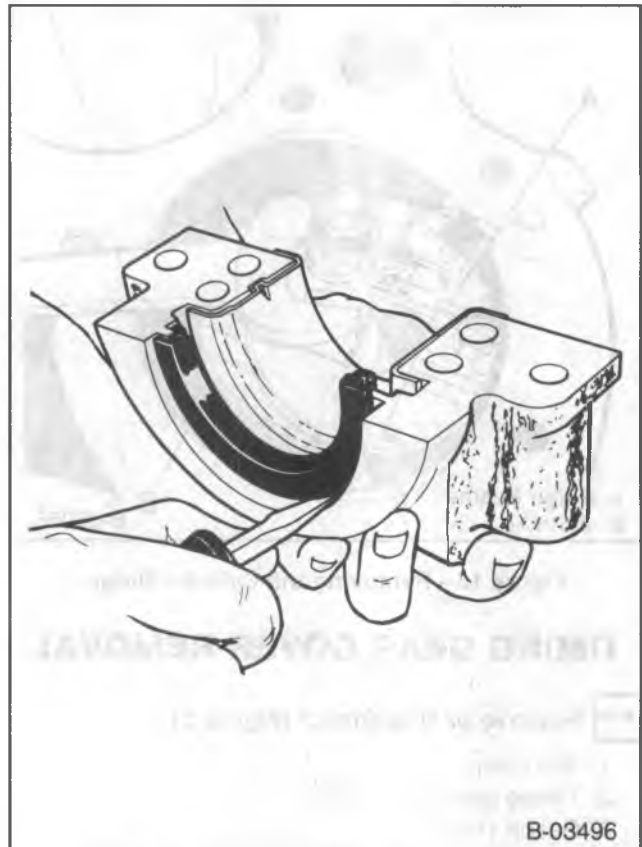

Figure 19—Removing the Lower Seal Half
- Check the main bearing caps (152) for location markings. Mark the caps if necessary. The caps must be returned to their original locations during the engine assembly.
1. Bolts (138) and stud (139).
3. Crankshaft (154). Lift the crankshaft straight up, taking care to avoid damage to the crankshaft journals and thrust flange surfaces.
4. Upper and lower seal halves (132 and 135). Pry the seal halves out with a screwdriver (figure 19).
1. Rear main bearing cap (137).
2. Lower seal half (135) (figure 19).
3. Upper seal half (132).